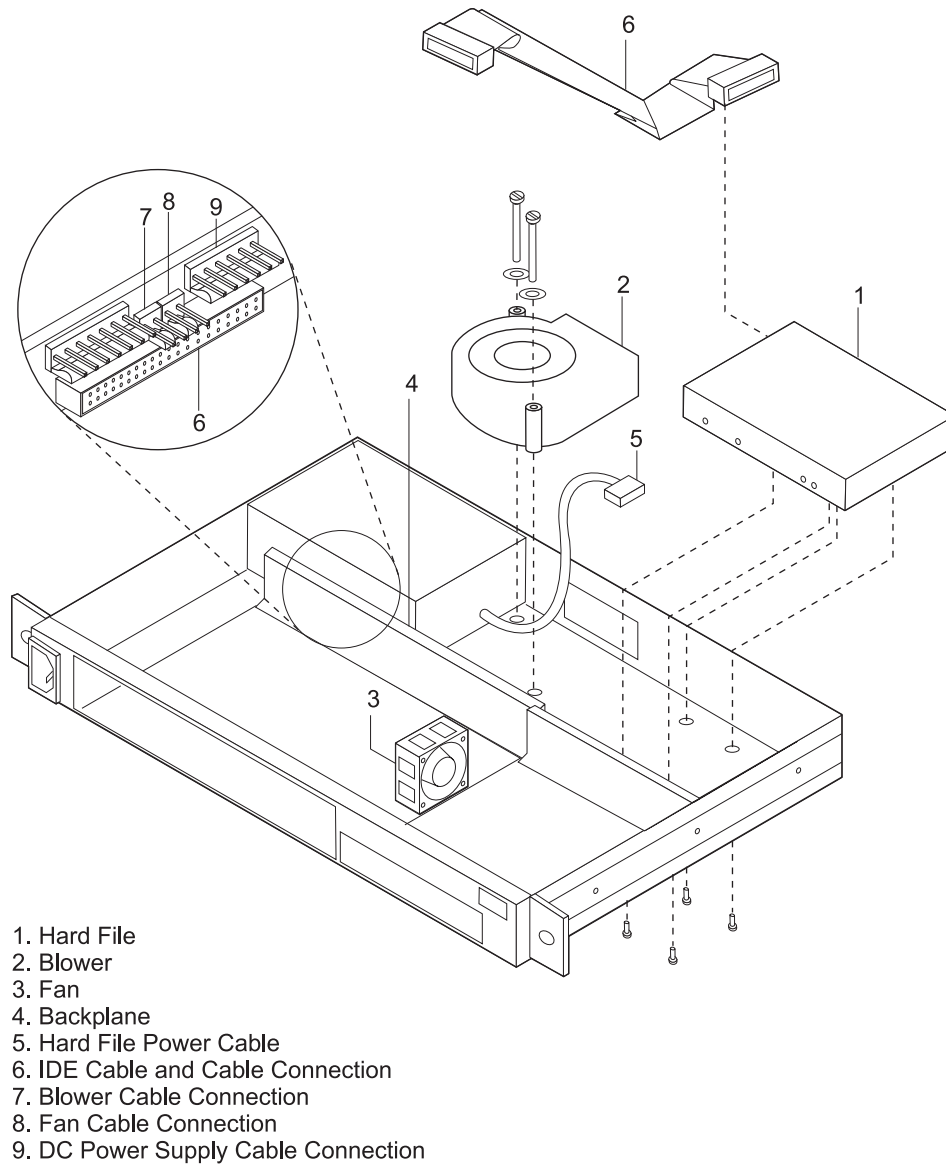

Figure 2-10. Model 1xx Chassis with a Hard File
8. Connect the new hard file to the IDE cable and the power cable, and route as shown in Figure 2-10 on page 2-18.